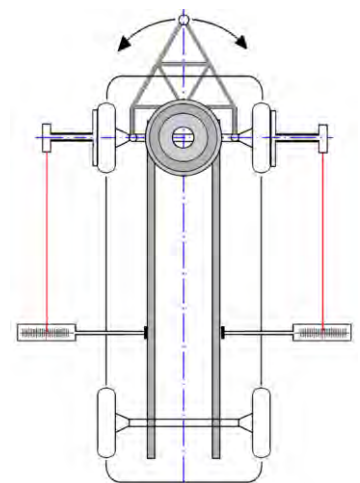

Fig. 14
- The vehicle axle on the drawbar must be aligned so that the laser beam points to the same value on the scale on both sides. (Fig. 14)